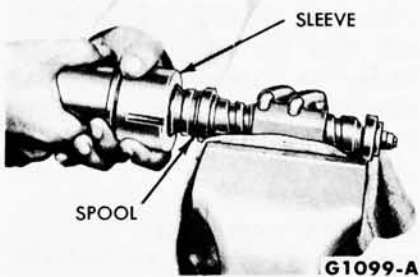

FIG. 33—Removing Valve Spool Sleeve
1. Position the ball nut assembly in a vise. Use a clean cloth in the vise to protect the ball nut assembly. Remove the valve spool sleeve from the torsion bar assembly (Fig. 33). Remove the "O" ring from the sleeve.